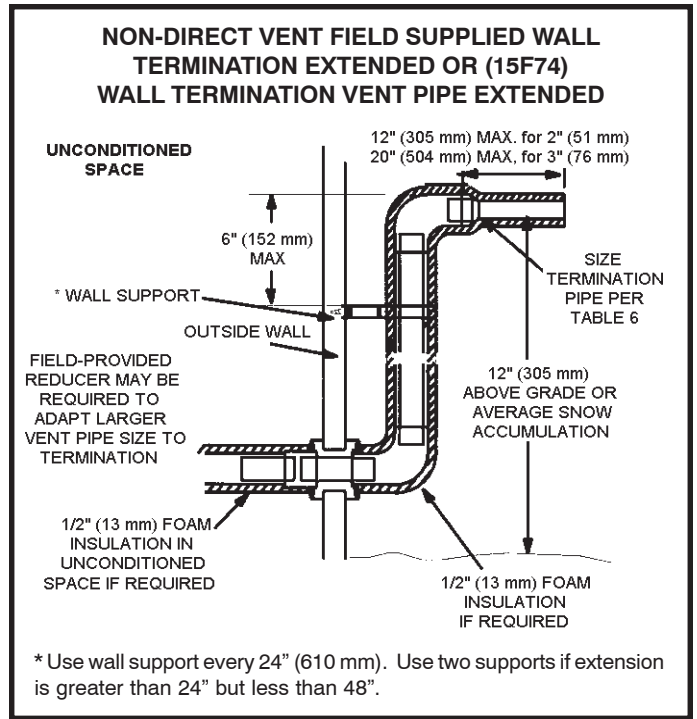

Figure 39
3. If exhaust piping must be run up a sidewall to position above snow accumulation or other obstructions, piping must be supported every 24" (610 mm) as shown in Figure 39. When exhaust piping must be run up an outside wall, any reduction in exhaust pipe size must be done after the final elbow.